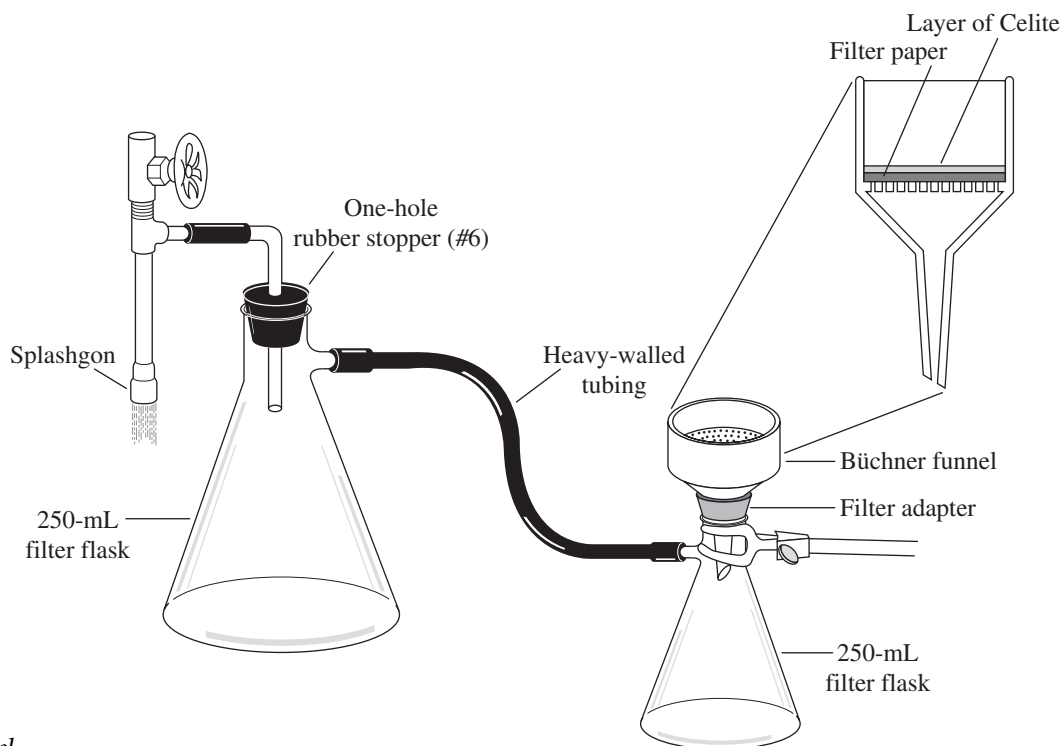

Figure 33.2
2. Prepare a vacuum filtration assembly using two 250-mL side-arm filter flasks, a 5.5-cm Büchner funnel (with a Filtervac or neoprene adapter), and two lengths (each 12 in.) of vacuum tubing, as assembled in Figure 33.2. Place a piece of filter paper into the Büchner funnel so that it covers all the holes and lies flat. Into a 250-mL beaker, place 100 mL of water and one tablespoon of Celite (Filter Aid, which is diatomaceous earth). Stir vigorously and pour the mixture into the Büchner funnel while the water is running and a vacuum is applied. A thin layer of the Celite Filter Aid will form on the filter paper. Discard the water collected in the filter flask.
After heating for about 20 min., the odor of alcohol will disappear, indicating the completion of the reaction. A pasty mass containing a mixture of the soap, glycerol, and excess sodium hydroxide is obtained. Use an ice-water bath to cool the flask with its contents. To precipitate or “salt out” the soap, add 150 mL of a saturated sodium chloride solution to the soap mixture while stirring vigorously. This process increases the density of the aqueous solution; therefore, soap will float out from the aqueous solution. Filter the precipitated soap with the aid of suction (see Figure 33.2; only use filter paper in the Büchner funnel) and wash it with 10 mL of ice-cold water. Observe the appearance of your soap and record your observation on the Report Sheet.